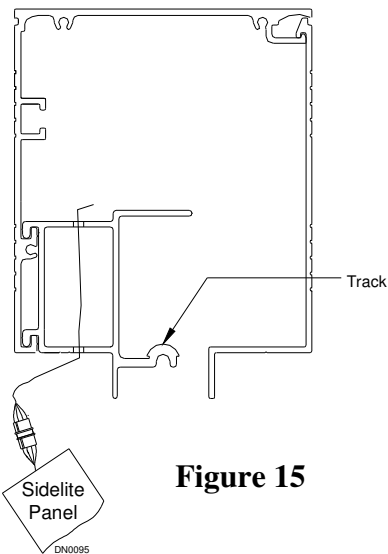

Figure 15
4. Route control panel wiring harness into Fixed Panel stile (See Figure 15 Pg. 10). **Note:** Wire harness will go around track, not through it like a Full Open (See Figure 15 & 19).